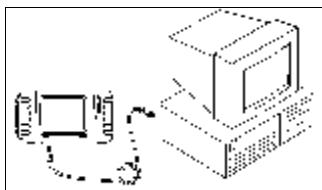

Fig.2.11
② Connect **Star** and PC with the network cable as shown in Fig. 2.11.
③ Manually Set the IP address of your computer between 192.168.1.2 and 192.168.1.253 **except** the following three one: